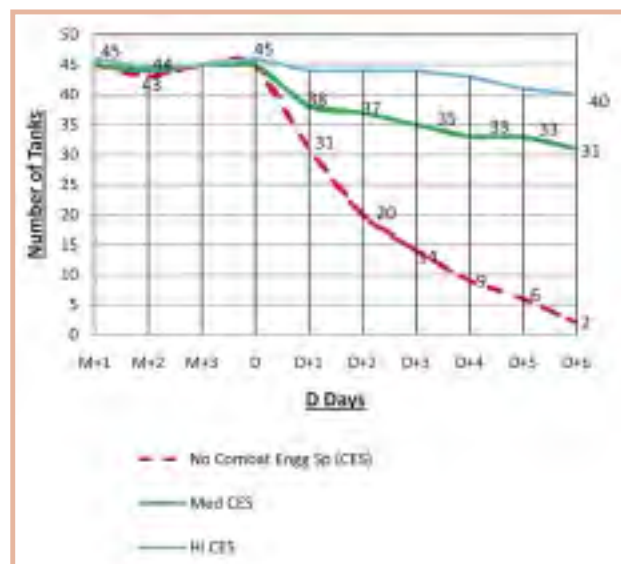

Fig 1 : Msn Capable rates for an Armd Regt
**Combat Engg Sp (CES):** The fall in operational availability day wise over a 10 day combat pulse could be as shown at fig 1. The red worm on the graph assumes non availability of any kind of CES. It is obvious that the daily msn capable rates fall drastically to unacceptable levels of 50 / 60% on the third / fourth day. In future combat situations, with enemy possessing assets to increase battle field transparency, net enabled standoff capabilities & lethality, combat damage rates could shoot up to unprecedented levels.
Using a well orchestrated & responsive CES with 24-48 hours maximum recycling time & warpacs, the regeneration rates could be up scaled providing a huge competitive advantage and operational overmatch. (Ref fig 1, green graph). This equipment sustainment trade space needs to be appreciated. A highly responsive forward repair concept built around LRUs can upscale operational availability as shown in blue. Technology is a double edged weapon and with increased complexity of weapon systems, more failures could result. Given the criticality of responsive combat engg sp (battlefield sustainment) to operational plans, sustainment engineering has to be designated as a battlefield operating system. A shared purpose of sustainment has to be created.